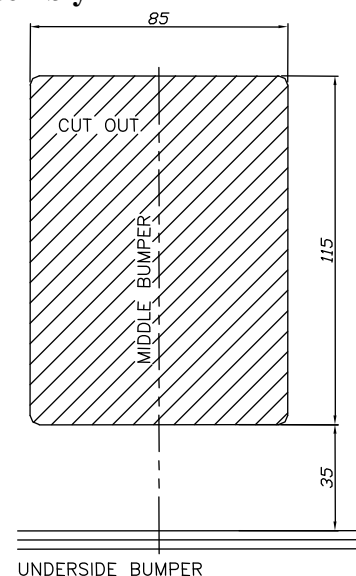

Fig. 2 Sample for 3 doors version
4. Slip the main bar of the towing hitch (pos. 1) to chassis members in that way so holes of the towing hitch be covered with existing holes in chassis members and fix using bolts M10x35mm (pos. 6) as it shown on drawing:
5. Install the bumper after cut out of its fragment (see fig. 2 and 3).
6. Fix body of the automat and the socket plate (pos. 3) according to supplied instruction. Place tow-ball (pos. 2) according to supplied instruction.